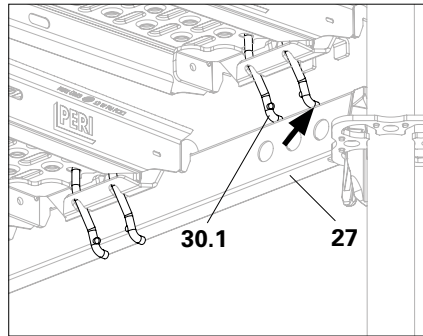

Fig. A4.04
3. Set the deck with the lift lock (**30.1**) down on Horizontal Ledger UH-2 (**27**). (Fig. A4.04)